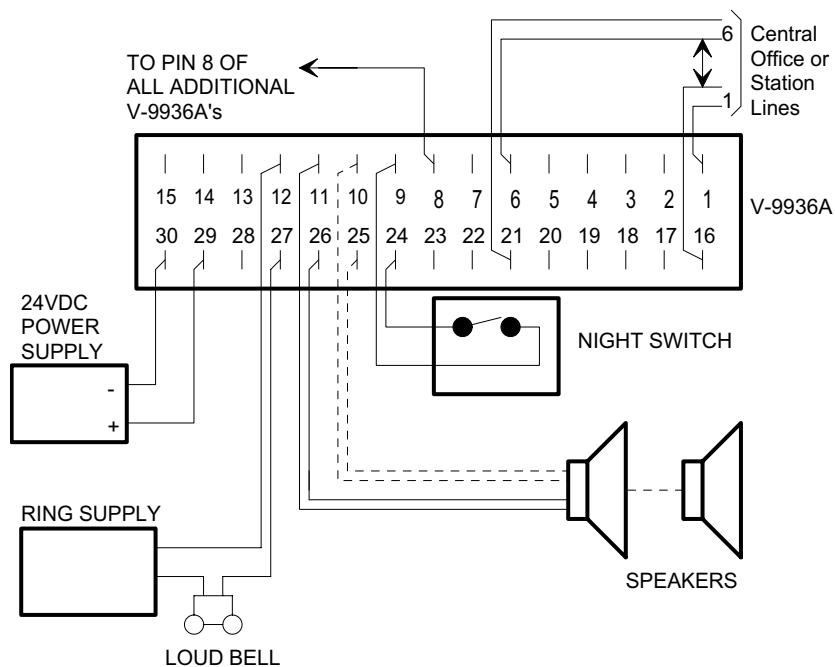

FIGURE 3 - STAND-ALONE RINGING CONNECTIONS
- Proceed to Figure 3 for Stand-Alone Ringing Connections.